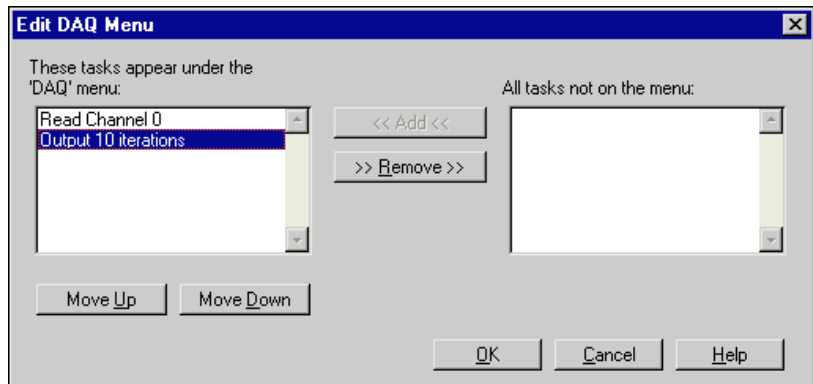

Figure 2-7. Adding Tasks to the DAQ Menu
2. Click on the **Edit Menu** button to display the Edit DAQ Menu dialog box, as shown in Figure 2-7.